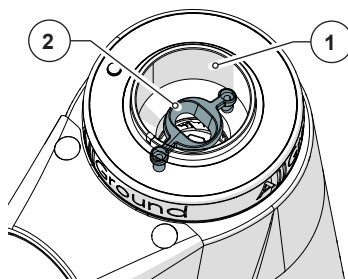

Fig. 4
- **Anti-intrusion device on removable chamber (Fig. 4)**